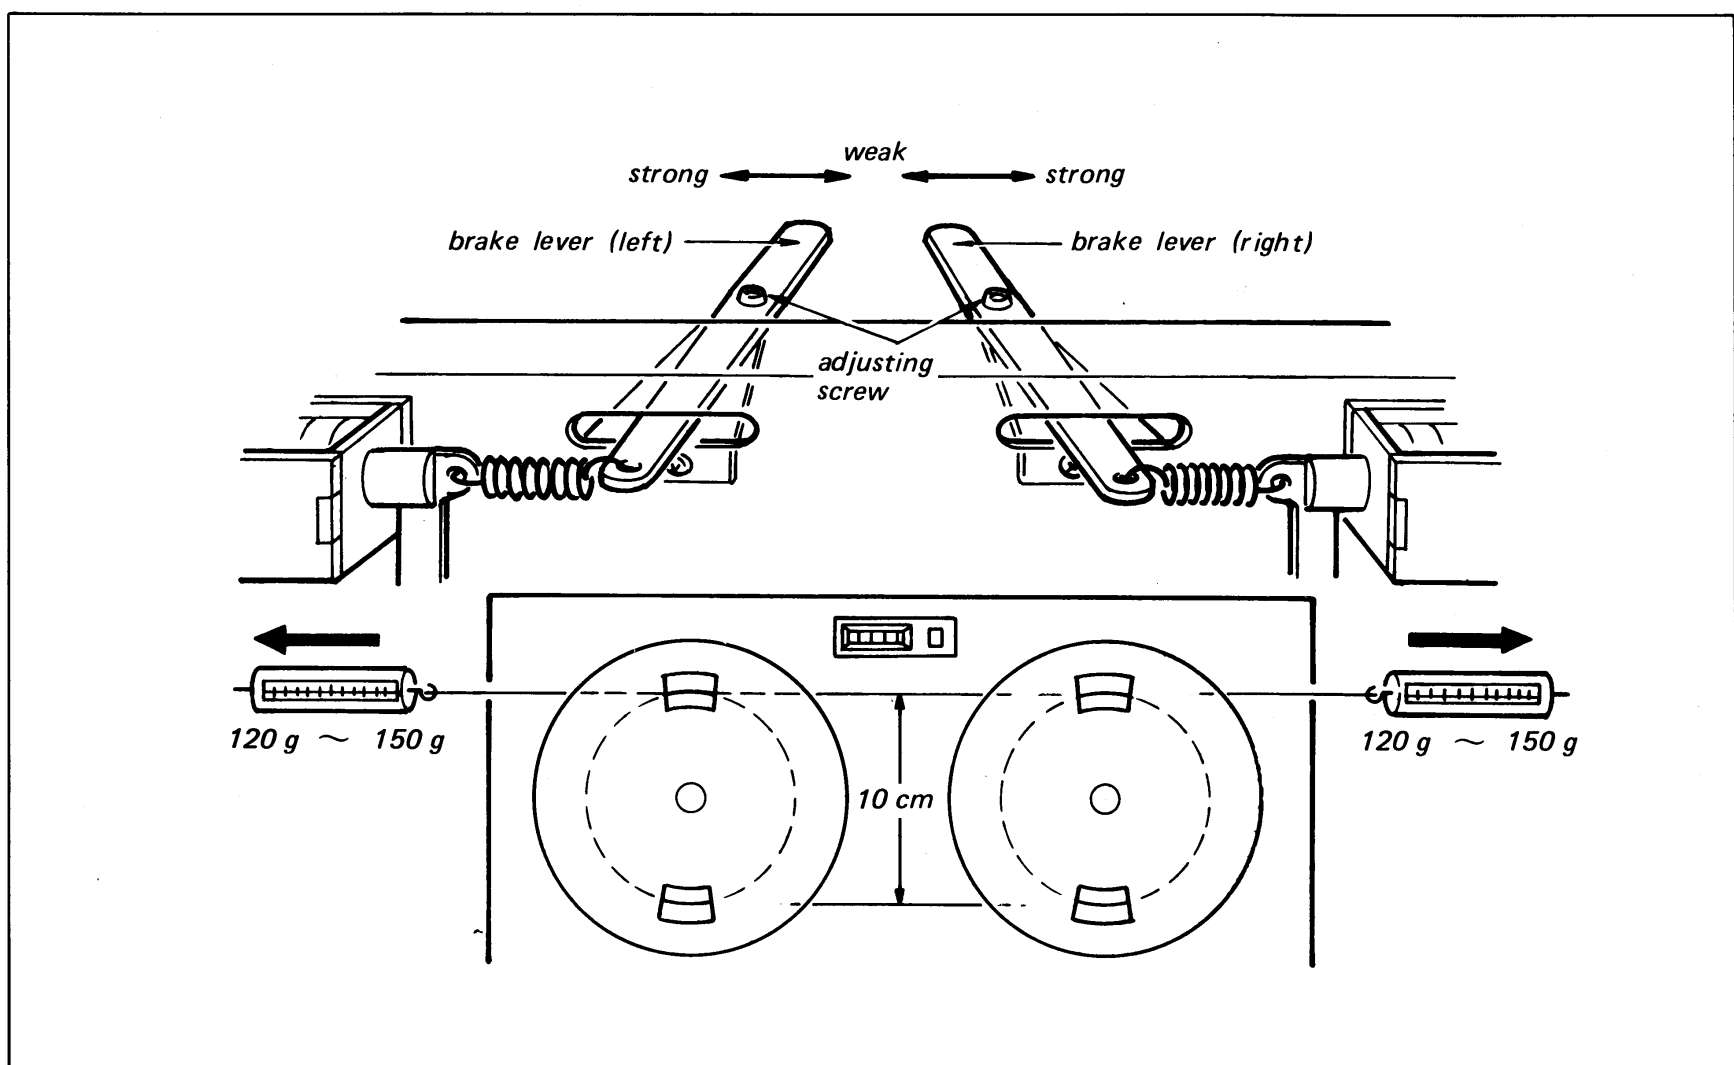

Fig. 3-1. Brake torque adjustment
3-1. Brake Torque Adjustment (See Fig. 3-1)
- 1) Place an empty reel (with 10 cm hub diameter with about 80 cm length of string to the reel anchor) and a spring scale on the left reel table as shown in Fig. 3-1.